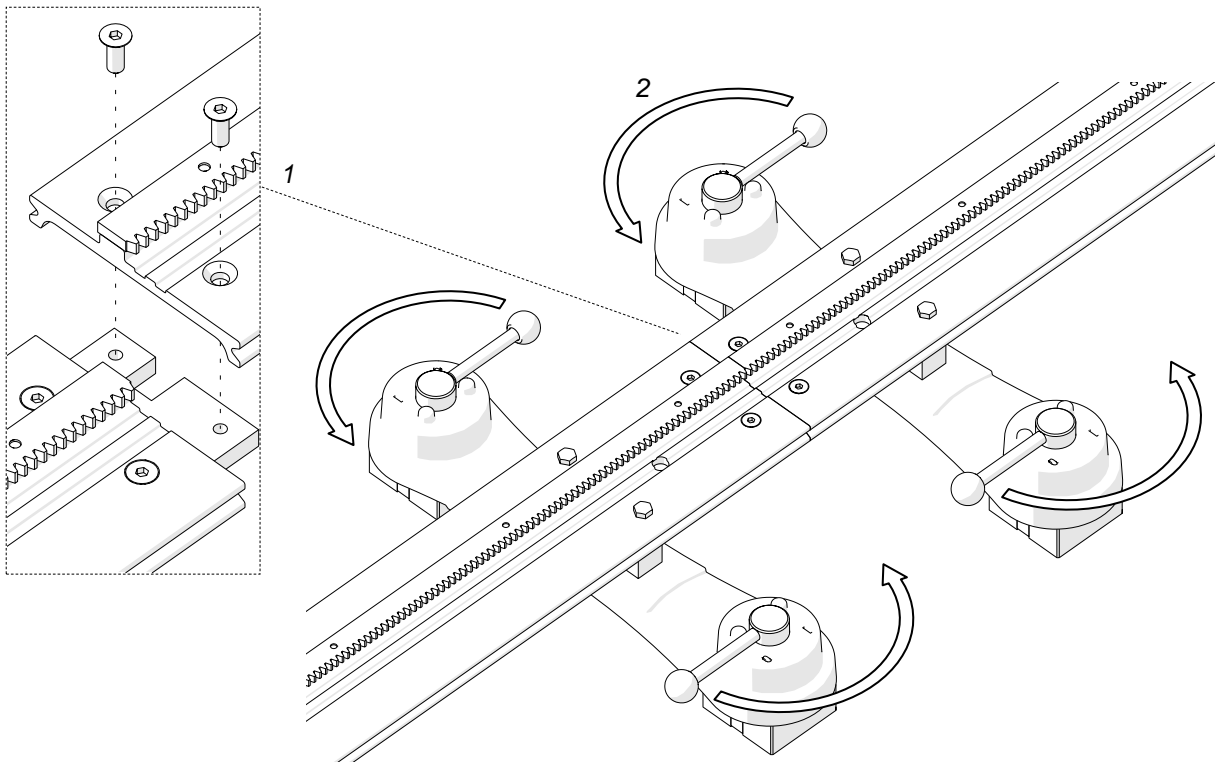

Fig. 1. Connecting the rails and clamping the magnetic units to the surface
Connect magnetic units to the rail, and position it on the workpiece. Use the 4 mm hex wrench to attach additional rails (1, Fig. 1), and then switch the levers of the magnetic units to 'I' (2). This will clamp the track to the surface.